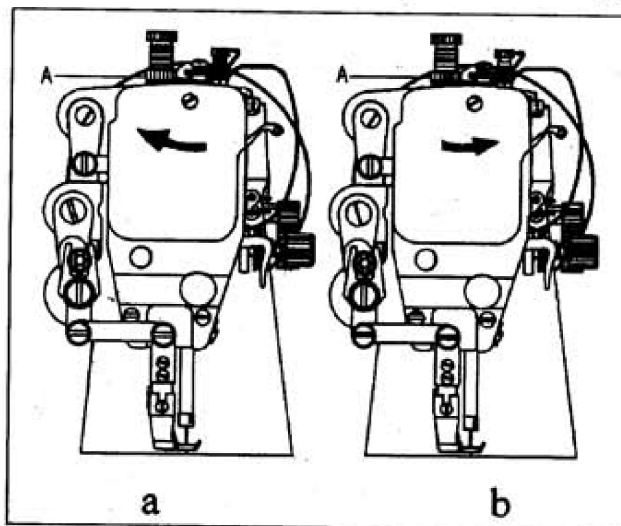

Fig. 10
12. ADJUST THE PRESSURE OF PRESSER FOOT (Fig.10)
First loosen Lock Nut (A). For heavy materials, turn the pressure regulating thumb screw as shown in Fig.10 (a) to increase the pressure, while for light materials, turn the pressure regulating thumb screw as shown in Fig.10 (b) to decrease the pressure. Then tighten Lock Nut (A).